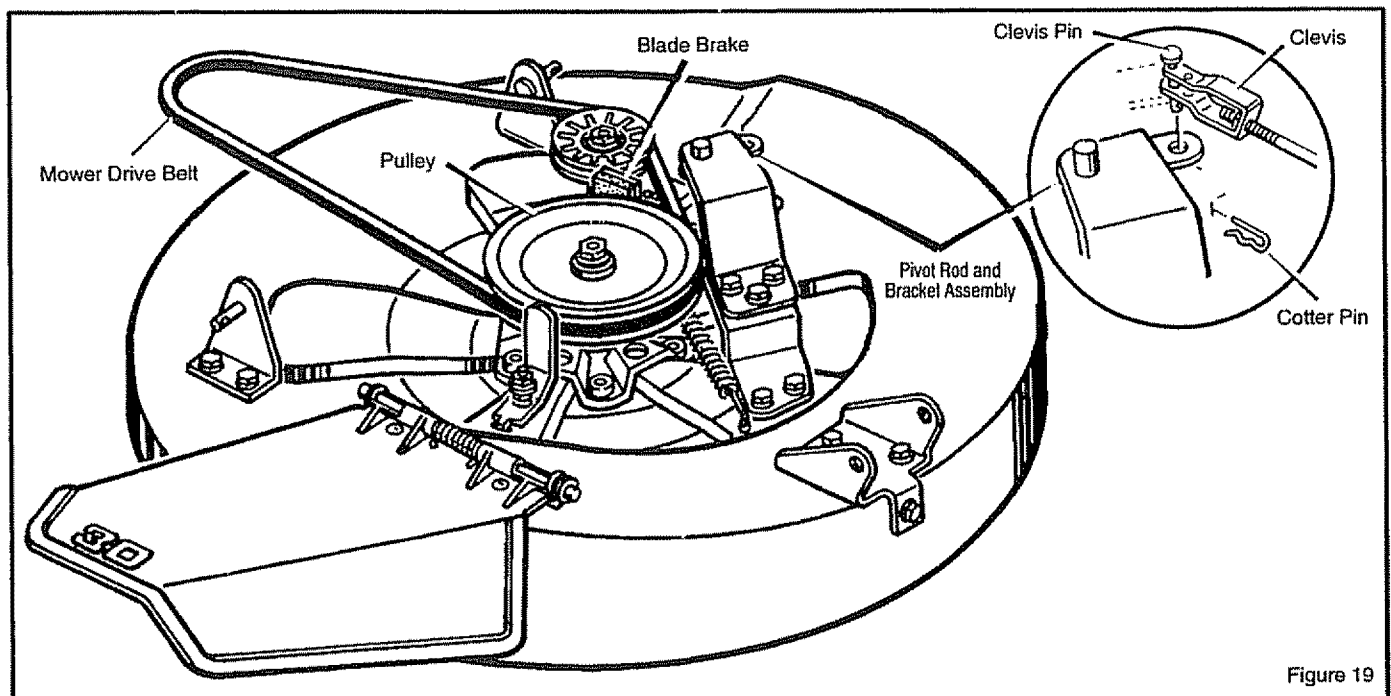

Figure 19
6. If an adjustment is needed, disconnect the **clevis** from the **pivot rod and bracket assembly** (Figure 19). Turn the **clevis** clockwise to decrease the free movement of the **attachment clutch**. Turn the **clevis** counterclockwise to increase the free movement.